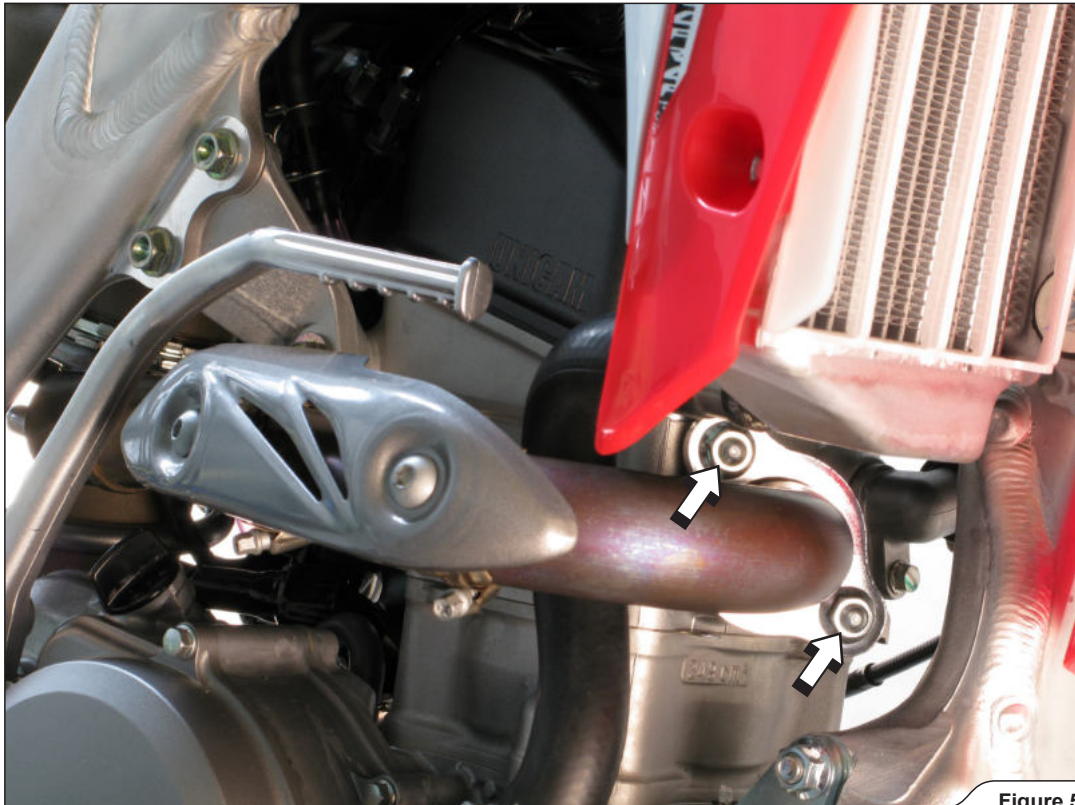

Figure 5
6. Unscrew the marked nuts and remove the stock header pipe off the motorcycle (**Figure 5**).